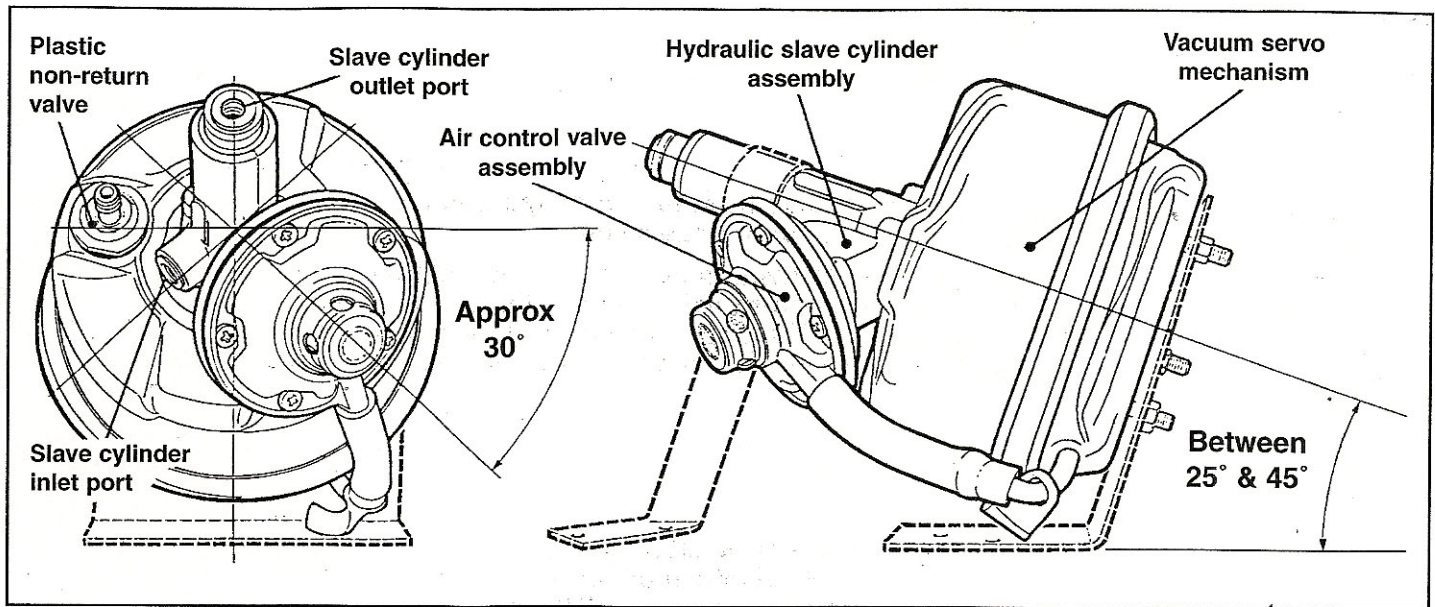

Fig.3
5. With the aid of the mounting brackets and fixings provided in the kit install the servo unit with the hydraulic slave cylinder outlet port **inclined upwards between 25° and 45° from the horizontal plane**. **(See Fig.2)**. The air control valve should be situated **at least 30° below the centre line** to assist when bleeding the hydraulic system. **(See Fig.3)**.